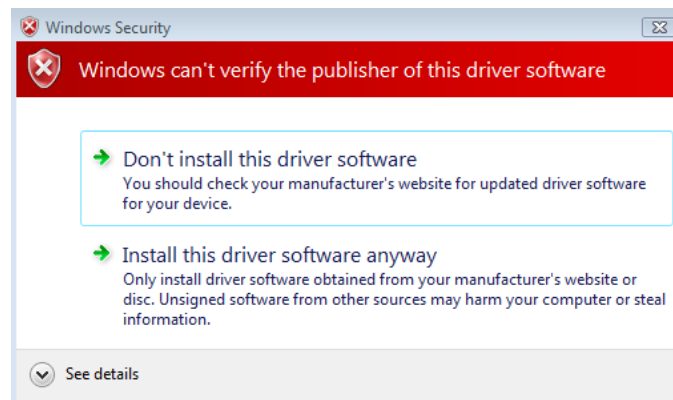

Figure 28 - Windows Security window
**Note:** Additional windows may appear depending on the windows security settings applied, select “install this driver software anyway”; if the windows security window is displayed see Figure 28.